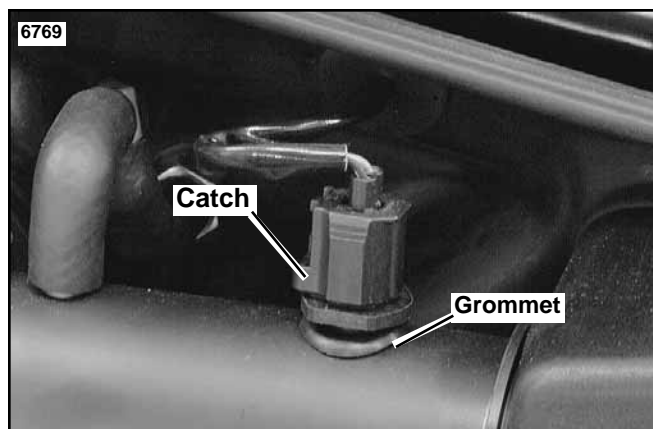

Figure 13. Model S3 Stock IAT Sensor
- a. See Figure 13. Press the catch on the intake air temperature (IAT) sensor.
9. For S3 Models, see Figure 13. Carefully remove IAT grommet from snorkel.